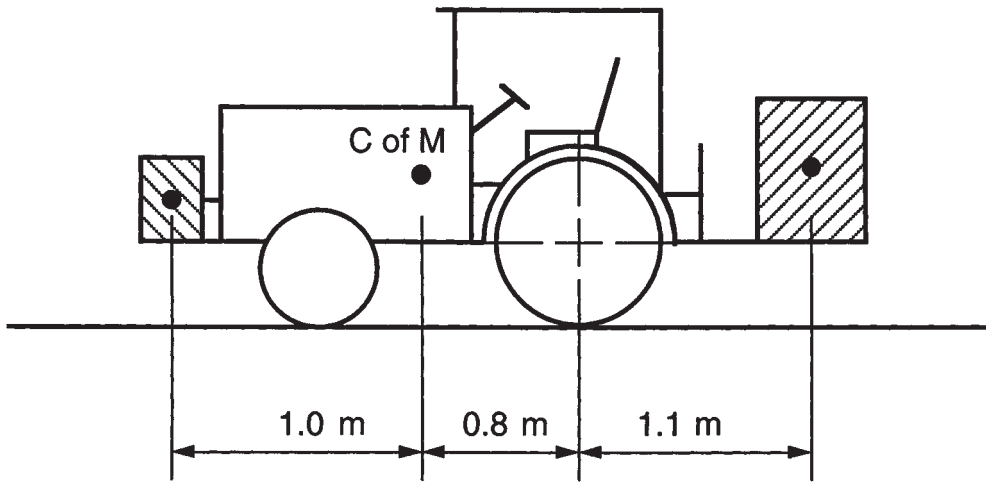

FIG. 12
- (k) The tractor in Figure 12 has a counterweight fitted to the front to balance a load being carried at the rear.